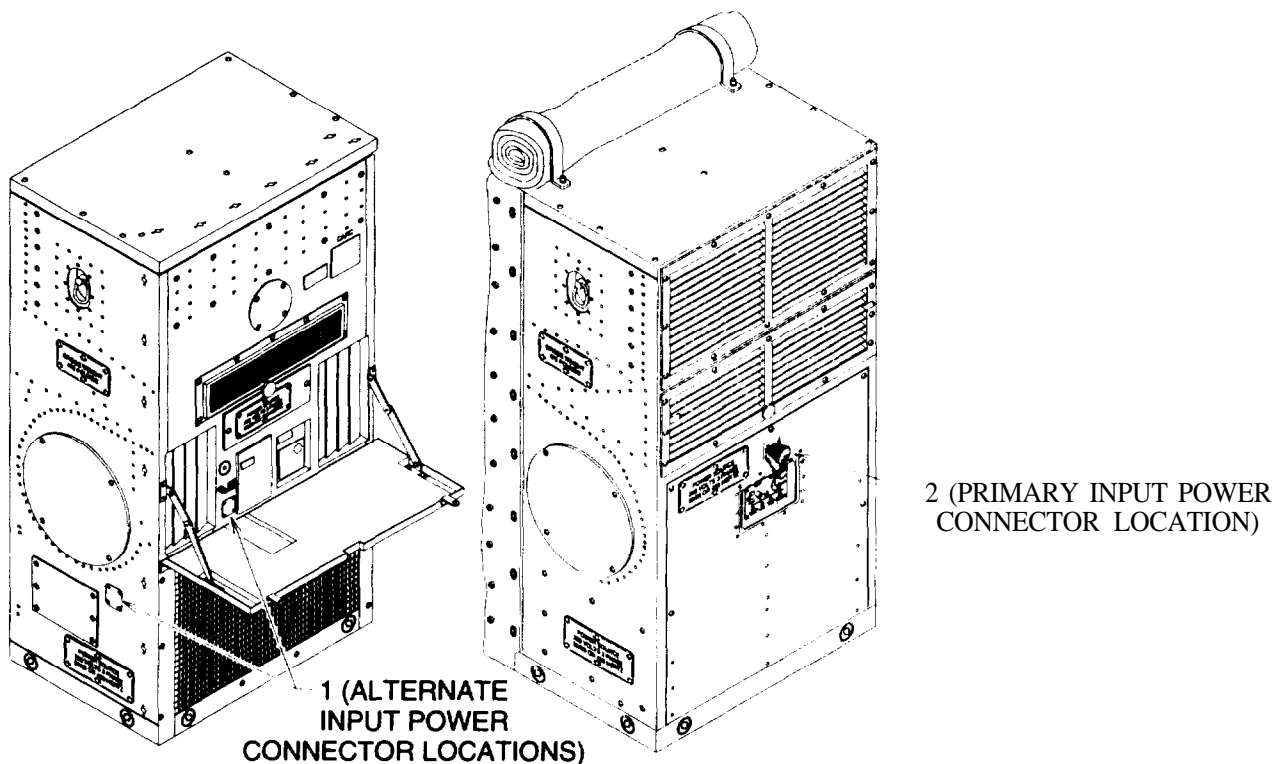

Figure 3-3. Input Power Connector Locations
- (1) Remove control panel per paragraph 3-20.
- (2) Secure the control panel in the remote location using appropriate hardware and bracket.
- (3) If the control cable will be routed through the return air opening, use the following procedures:
- (b) Disconnect the logic box input P1 connector (1), Figure 3-3 and connect it to the J13 connector (2).
- (c) Remove the J8 to P11A harness (6), Figure 3-3 per paragraph 3-25 and cover/seal the hole left in the evaporator compartment bulkhead.
- (d) Install the J8 connector (7) at the alternate input power connector location.
- (e) Connect the P11A connector (4) to the input power connector/EMI filter assembly (3) inside the unit.
- (f) If the EMI filter (5) was removed, install it per paragraph 3-28.
- (5) Cover/seal input power connector/EMI filter assembly (3) opening if necessary.
- (6) Install return air grille per paragraph 3-13 as necessary.
- (7) Install lower front panel per paragraph 3-14.